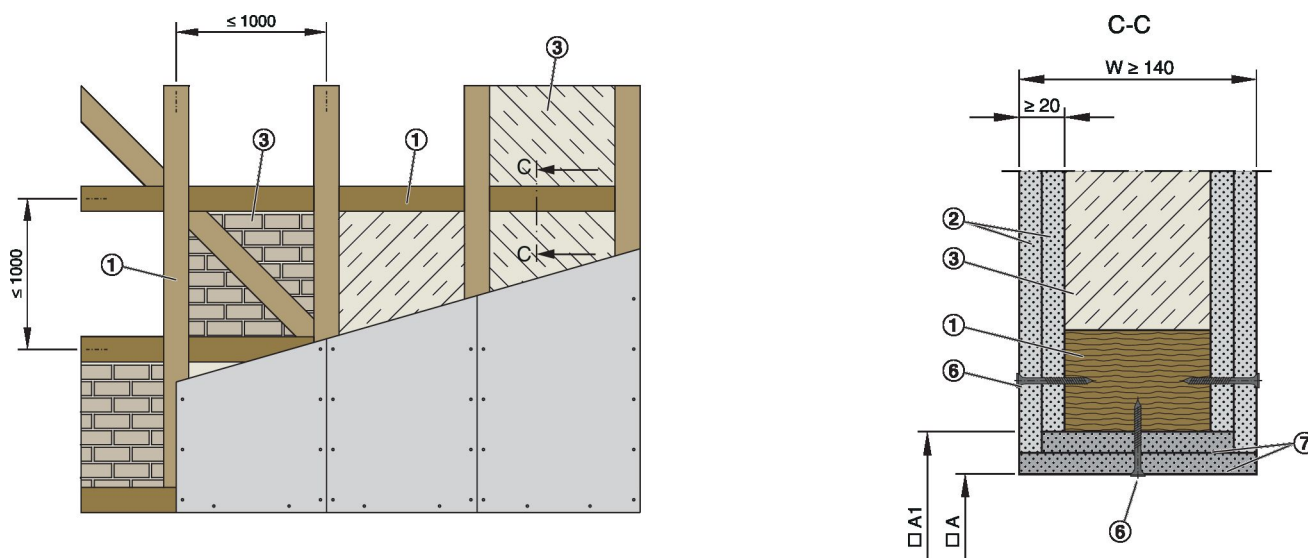

Fig. 40: Lightweight partition wall, half-timbered construction with cladding on both sides
- Create an installation opening in the timber support structure with timber studs ①, horizontal timber sections ② and trim panels ⑦; or create an installation opening in the half-timbered construction ① with trim panels ⑦, see Fig. 39 or Fig. 40.